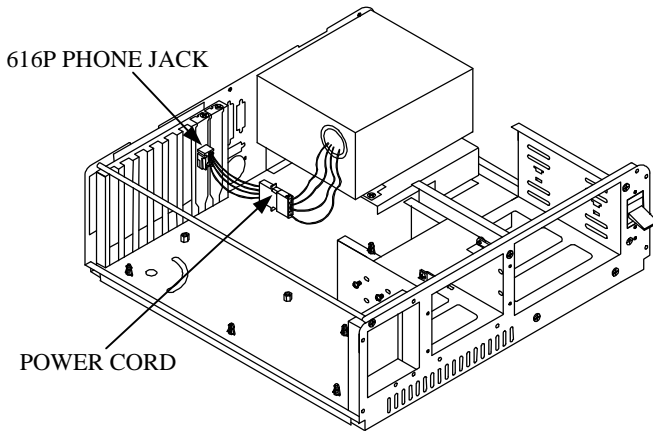

Fig 2
- 2.Connect the cable to the **HDD** type power connector of PC power supply. See **Fig2**. Then close the PC case.